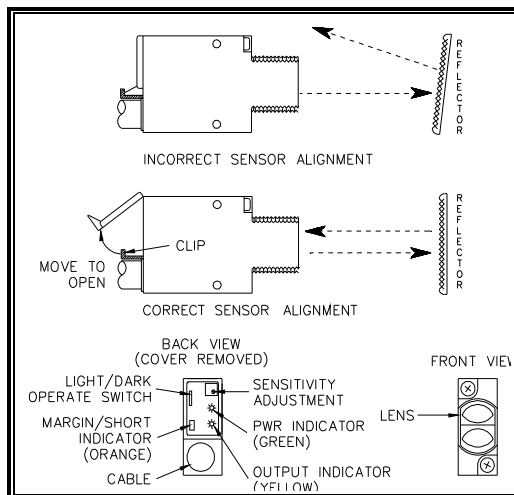

Figure 44 Allen Bradley
3. The rear cover window on the detector must be opened before any adjustments can be made. See Figure 44. Press the flexible retaining clip against the cable to open the window.